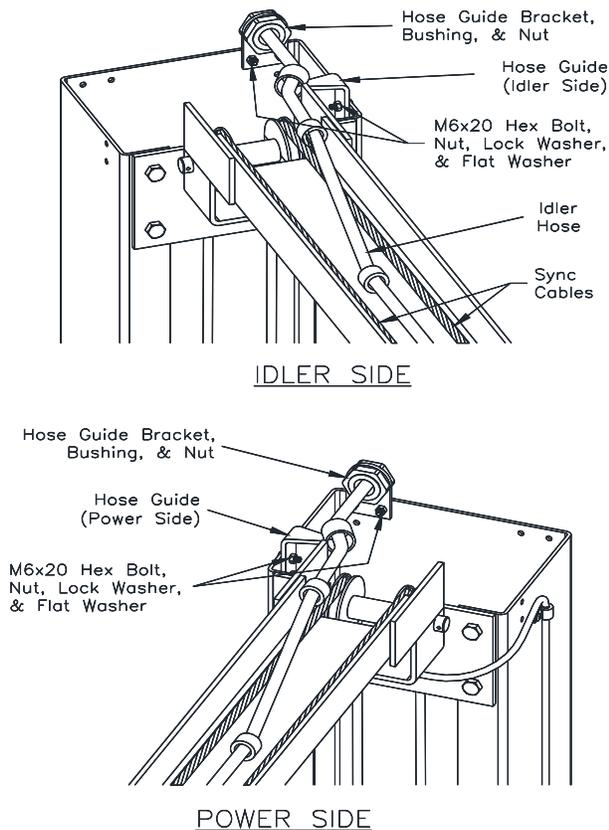

Fig. 8 – Column Extensions
- 25) Beginning on the idler side, attach the idler hose to the cylinder elbow fitting. Route the idler hose (long) up the backside of the column and thru the plastic guide at the top of the extension. Continue across the overhead through each of the guides as shown in **Fig 8** and down the backside of the power column.
29) Use hardware shown in **Fig 8** to install bolt-on hose guide components.